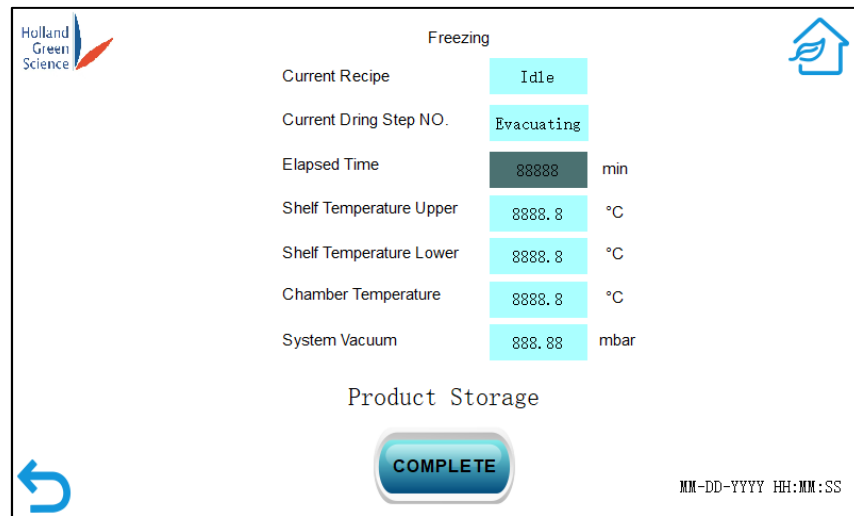
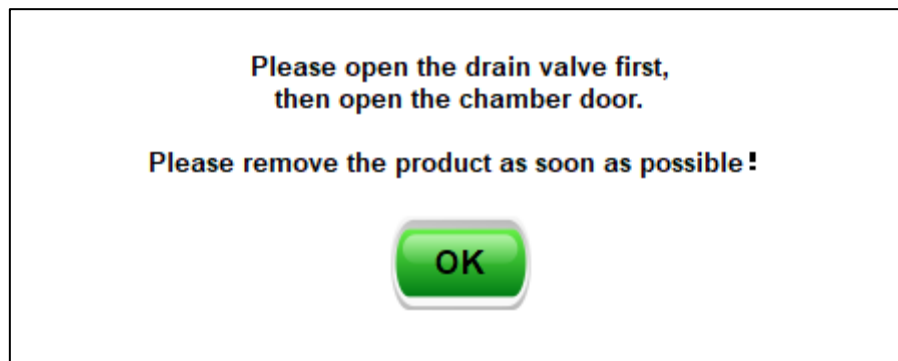

Figure 23
Figure 24
- When the processing step indicates “Product Storage” (Figure 23), the Program freeze-drying process is finished. **Open the drain valve and wait for the chamber pressure to return to normal before opening the chamber door** to retrieve the product (Figure 24).